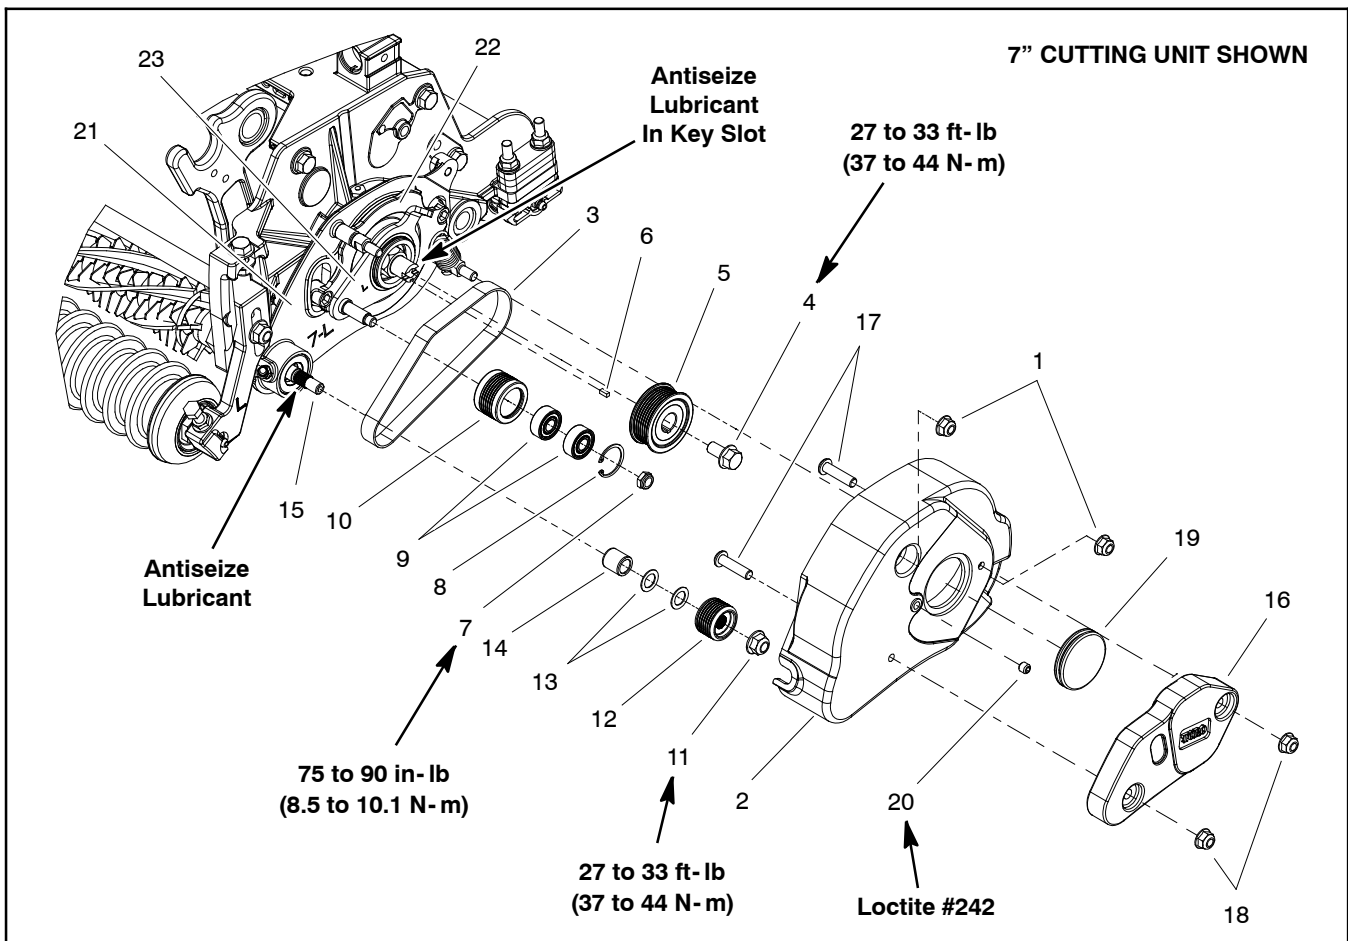
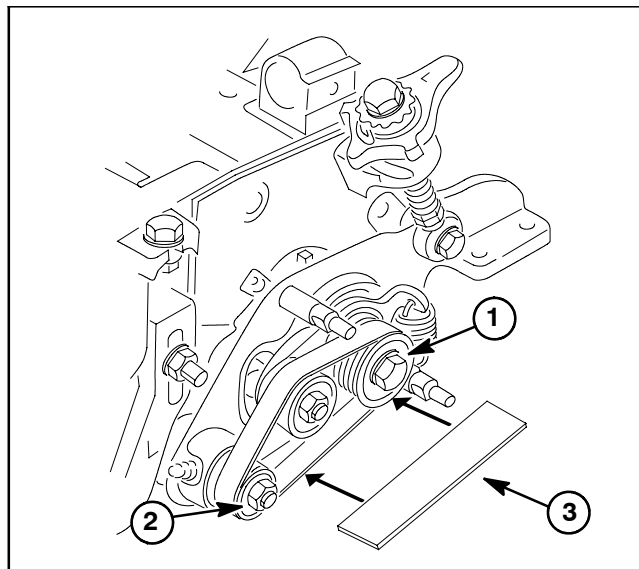

Figure 6
Figure 7
NOTE: The groomer drive is located on the opposite side of the cutting unit from the cutting reel motor. Figure 6 shows components used when the groomer drive is on the left side of the cutting unit.
Disassembly (Fig. 6)
3. Remove two (2) flange nuts that secure groomer cover, then remove cover.
5. As needed, remove drive pulley (item 5), driven pulley (item 12) and idler pulley (item 10) using Figure 6 as a guide.
Assembly (Fig. 6)
3. If drive pulley (item 5) was removed, apply antiseize lubricant to key slot in shaft. Place square key into shaft slot. Slide drive pulley onto shaft and secure with flange head screw. Torque screw from **27 to 33 ft-lb (37 to 44 N-m)**.
4. Check pulley alignment by laying a straight edge along the outer face of the drive pulley (Fig. 7). Drive and driven pulleys should be in line within 0.030" (0.76 mm). If necessary, align pulleys by removing driven pulley and installing or removing washer(s) (item 13 in Figure 6) between pulley and pulley spacer. Do not use idler pulley to check pulley alignment.
5. Install drive belt to drive pulley, idler pulley and driven pulley observing correct belt routing (Fig. 7). Make sure that groomer drive belt is above idler pulley after belt installation and also that the ribs on drive belt are seated in grooves in each pulley.
6. Install groomer cover and secure with two (2) flange nuts.